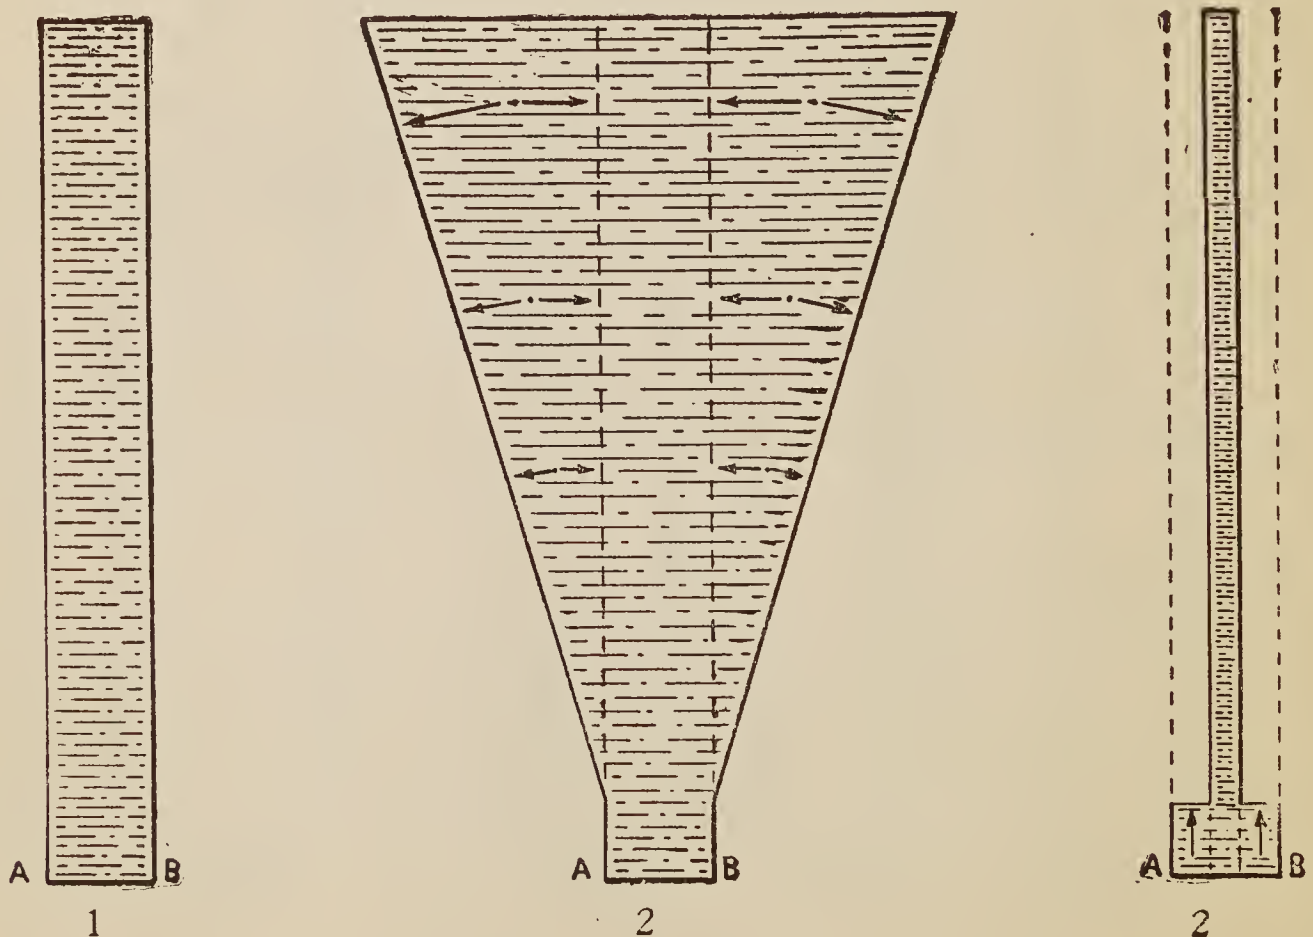

Fig. 89.—Explanation of the Hydrostatic Paradox.
In 1, Fig. 89, the base AB is subject to the pressure of the water in the cylinder above it, and in this case, the pressure is equal to the weight of the water.
In 2, Fig. 89, the same base AB has a much larger volume of water above it but the pressure is the same as in 1. You will understand why, if you consider the water outside the dotted lines. This water exerts a force perpendicular to the sides of the cone, and another force horizontally against the water between the dotted lines, see the arrows. Neither of these forces has any effect downward on the base and therefore the base is subject only to the weight of the water between the dotted lines. This weight is the same as in 1 and therefore the pressure on AB is the same as in 1.
In 3, Fig. 89, the base AB has a much smaller volume above it than in either 1 or 2, but still the pressure is the same as in 1 and 2. You will understand why from your knowledge of Pascal's law. The water above AB is exerting pressure downward, and according to Pascal's law this pressure is transmitted equally and undiminished in all directions. The pressure per square inch downward on the whole of AB, therefore, is equal to what it would be if the whole space between the outer dotted lines were filled with water. This pressure is equal to that in (1) and this is why the pressure in (3) is equal to that in (1).
The density (weight) of fresh water is  $62\frac{1}{2}$  lbs. per cubic foot and if in (1) Fig. 89, the base AB is 1 square foot and the height of the water is 10 feet, there are 10 cubic feet of water in the tank and the total pressure on the bottom is  $10 \times 62.5 = 625$  lbs.